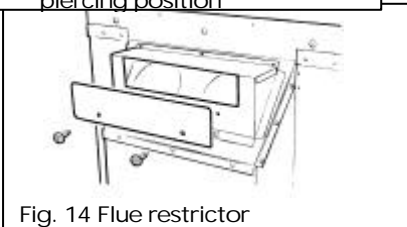

Fig. 14 Flue restrictor
6.6 This appliance is supplied with a flue restrictor for use where the flue draught is excessive. **The restrictor must not be fitted where a precast flue or a flue liner is used.** For all other installations the restrictor should be fitted. Fit the restrictor with two screws (See figure 14).